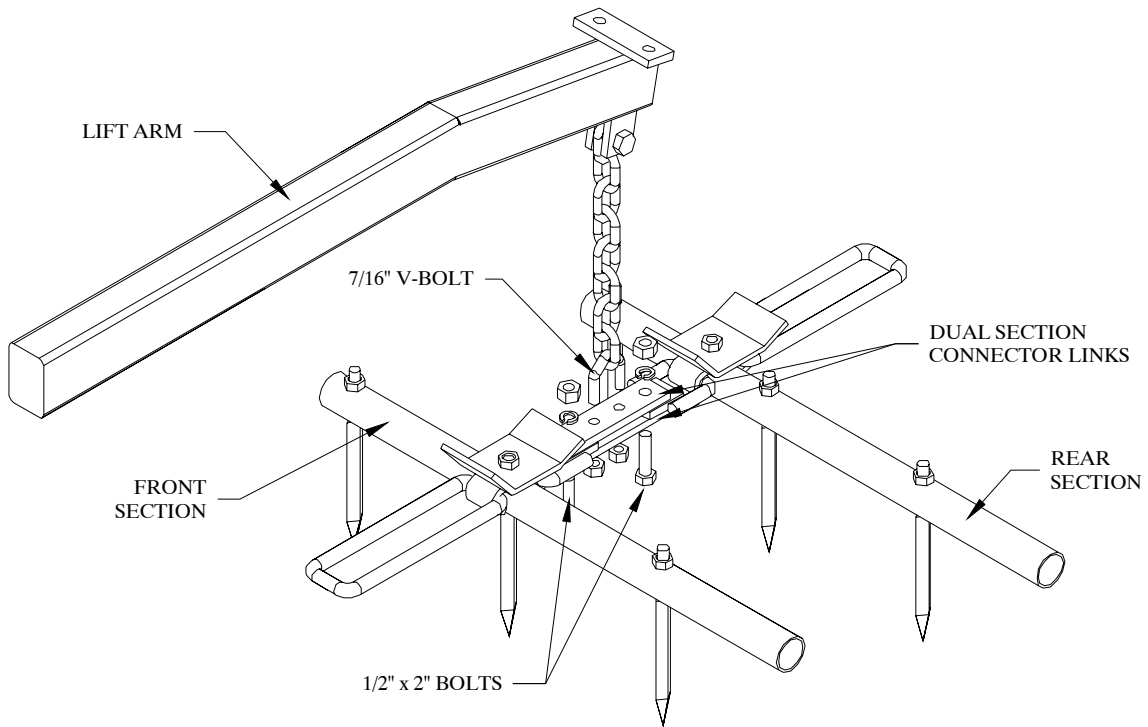

Figure 18
2. Bolt the front and rear harrow sections together using two $\frac{5}{16}$ " x $1\frac{1}{2}$ " x 6" dual section connector links at each pull tab. Refer to Figure 18. Use two $\frac{1}{2}$ " x 2" bolts, lock washers, and hex nuts. Do *not* tighten yet.